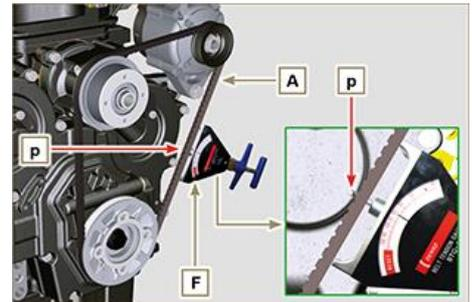

Fig 5.10
5. Check that at point **p** the tension value is between **70** and **75 Hz** for V-belt of 9 mm and **80** and **85 Hz** for V-belt of 17 mm (Fig. 5.10) (H).